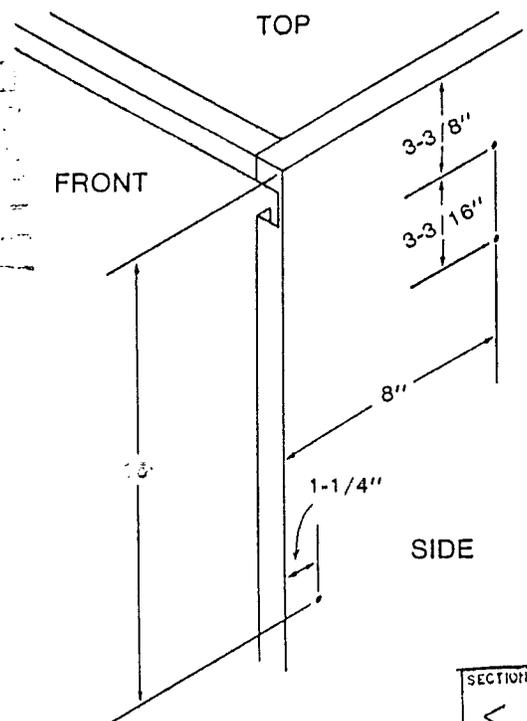
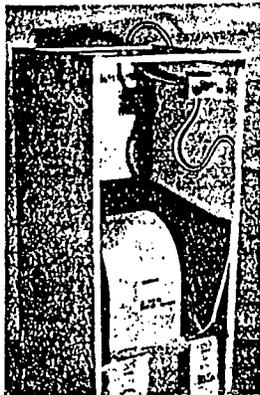

FIGURE 10
FIGURE 11
- i. Drill 3 sheet metal screw pilot holes in right side of the furnace for attaching fuse box assembly. See figure 10 for location of holes.
- Locate mounting holes on inside, right side of furnace casing. See Figure 10.
- Attach the fuse box at the 2 uppermost holes in the furnace casing with 2 blunt end sheet metal screws provided. Fuse holders should be facing towards the front of the furnace. See Figure 11.
- Route the smaller flexible conduit from the fuse box over to the screw hole near the furnace door opening. See Figure 10. Use plastic wire clamp provided and secure conduit to side of furnace at this location with remaining blunt end sheet metal screw. End of smaller conduit should terminate about one inch above right side of furnace electrical component compartment. Excess of conduit should be looped between the plastic clamp and the fuse box. See Figure 11.